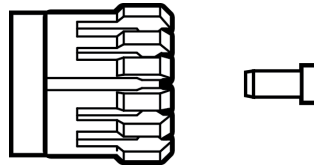

Figure 11. Removing the Rubber Nail from the Sealing Insert
2. Remove the rubber nail from the sealing insert. Refer to Figure 11.